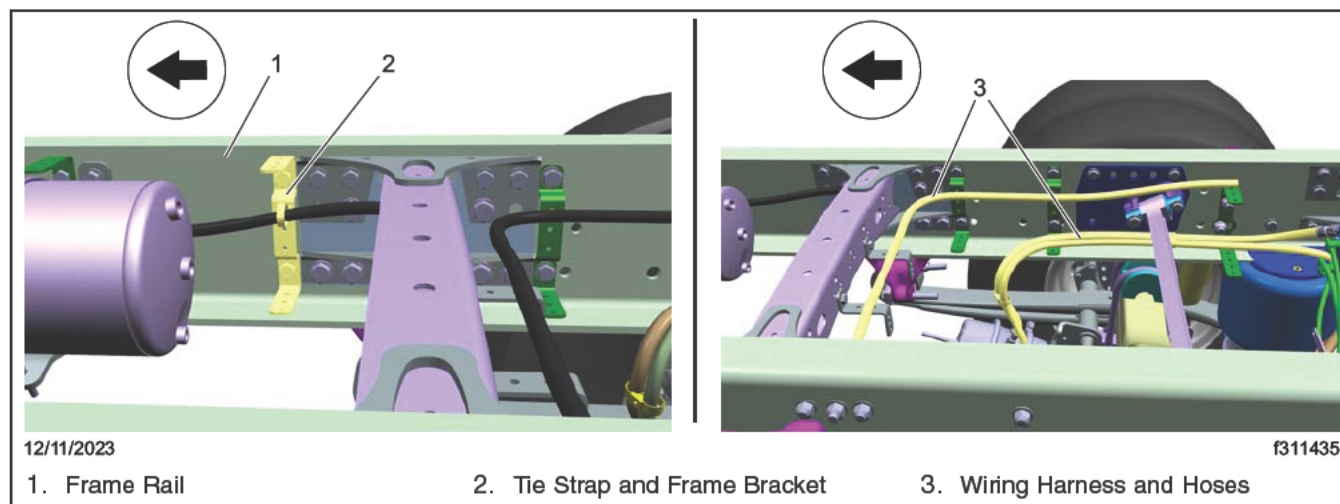

Fig. 2, Right-Hand Frame Bracket, Wiring Harness, and Hoses
5. Remove the tie straps that secure the wiring harness and hoses to the frame rails, then gently move the wiring harness and hoses to access the bracket mounting fasteners. See Fig. 2.